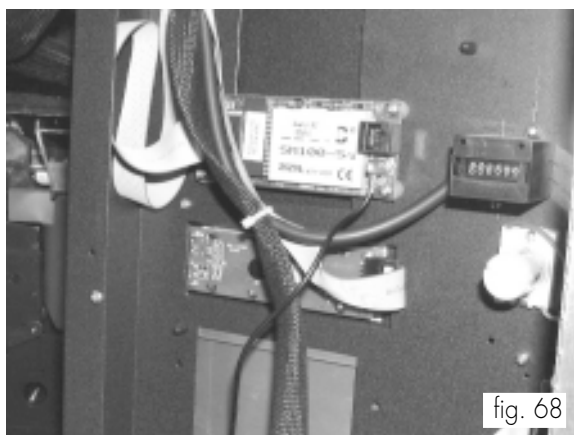

fig. 64
- Fasten the antenna on the tile (fig. 64) by sliding the cable through the 3 dia. hole.